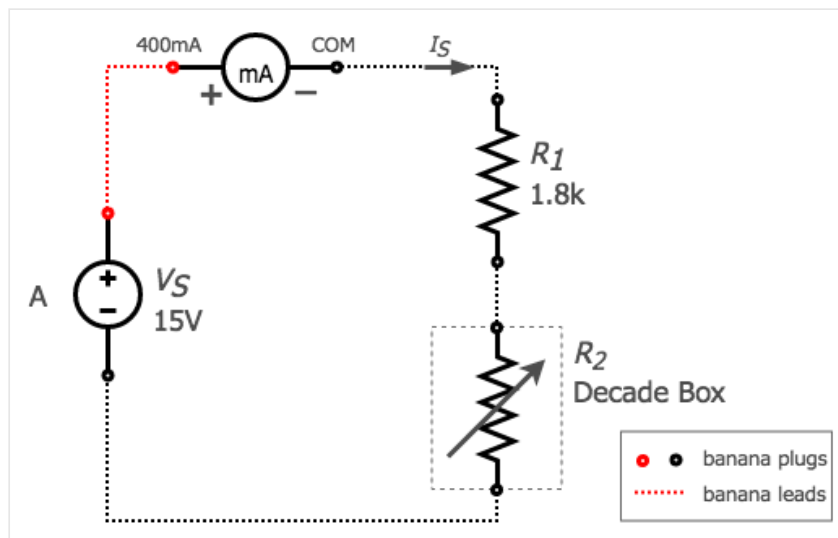

figure 12. Series Resistor Test Circuit
- c. Connect the circuit in figure 12 using the following: